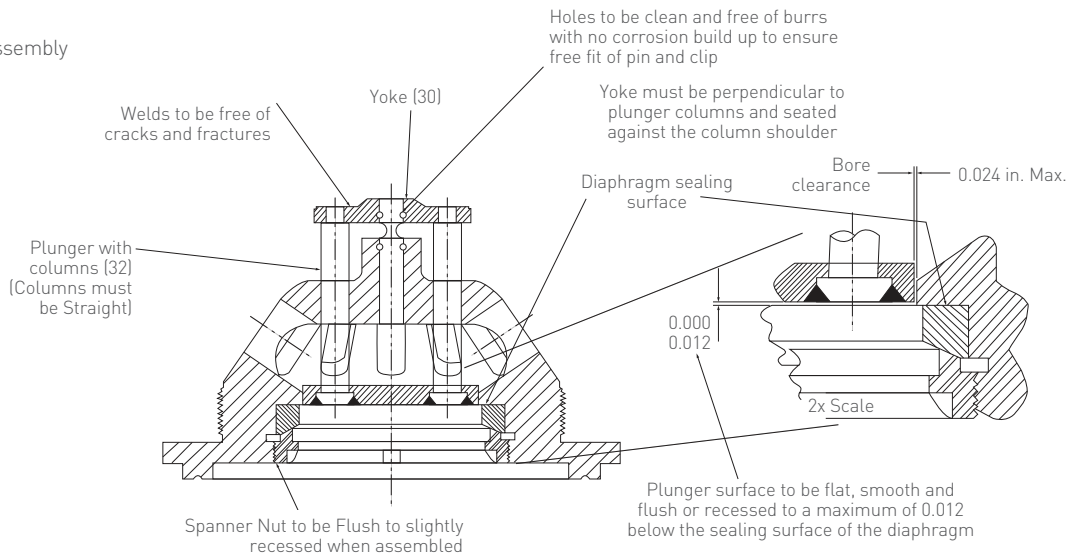

FIGURE 4
Inspect the diaphragm seating surface in the Housing (35). The diaphragm seating surface must be clean and free from nicks, burrs and score marks. There must not be excessive pitting or corrosion. The machine surface should have well-defined serrations (Figure 4). If the serrations are significantly worn or damaged, resurfacing should be considered.
If machining is required to restore the seating surface, the bottom of the Housing (35) surface must be machined so that the height of the seating surface is maintained at 0.312 in.  $\pm$  0.016 in.. The Housing (35) should be discarded if the distance from the base seat surface to the lower diaphragm seat surface is reduced below 1.234 in. (Figure 4).